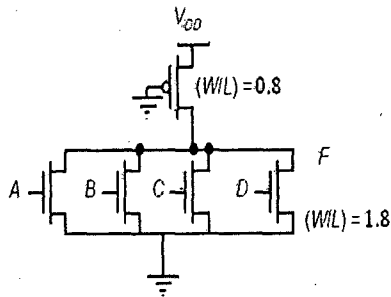

Figure 4
- 11.(i) Derive the VTC of the inverter. Draw and Mark significant points on the VTC. (8)
- (ii) Derive switching threshold of an inverter and state how the relative sizing of NMOS and PMOS devices helps in shifting the switching threshold. (8)
12.(a) Consider the pseudo NMOS circuit given in Fig.4. Use the following device parameters for calculation NMOS: $K_n=115\mu A/V^2$, $V_{T0}=0.43V$, $\lambda=0.1V^{-1}$, $V_{DSAT}=0.63V$